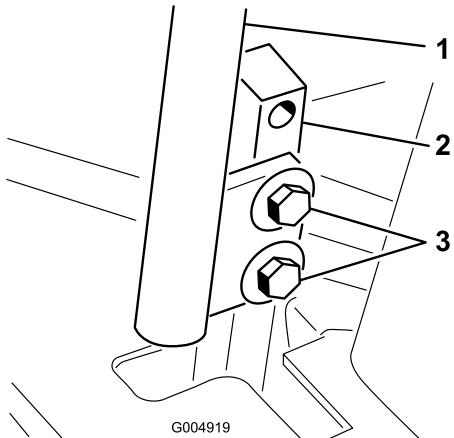

Figure 74
3. Loosen the bolts securing the control levers (Figure 74)